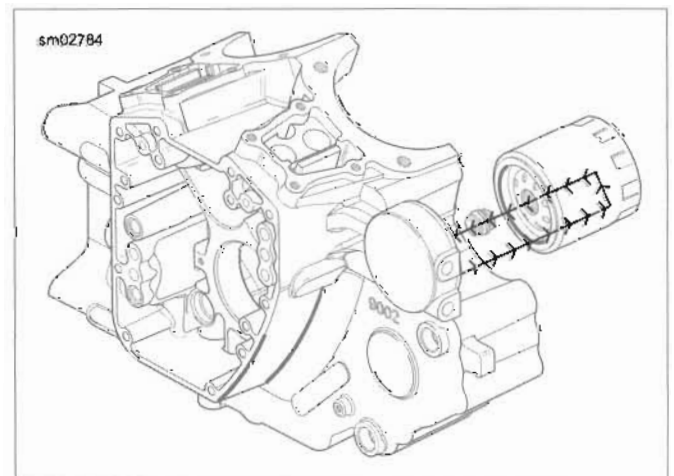

Figure 3-3. Oil Filter Flow
See Figure 3-3. Oil not returned to the feed side exits the cam support plate and passes through a hole in the crankcase. Flowing through a passageway in the crankcase, the oil exits the lower hole in the oil filter mount. The oil pressure sending unit (8) also reads the pressure within that passageway.